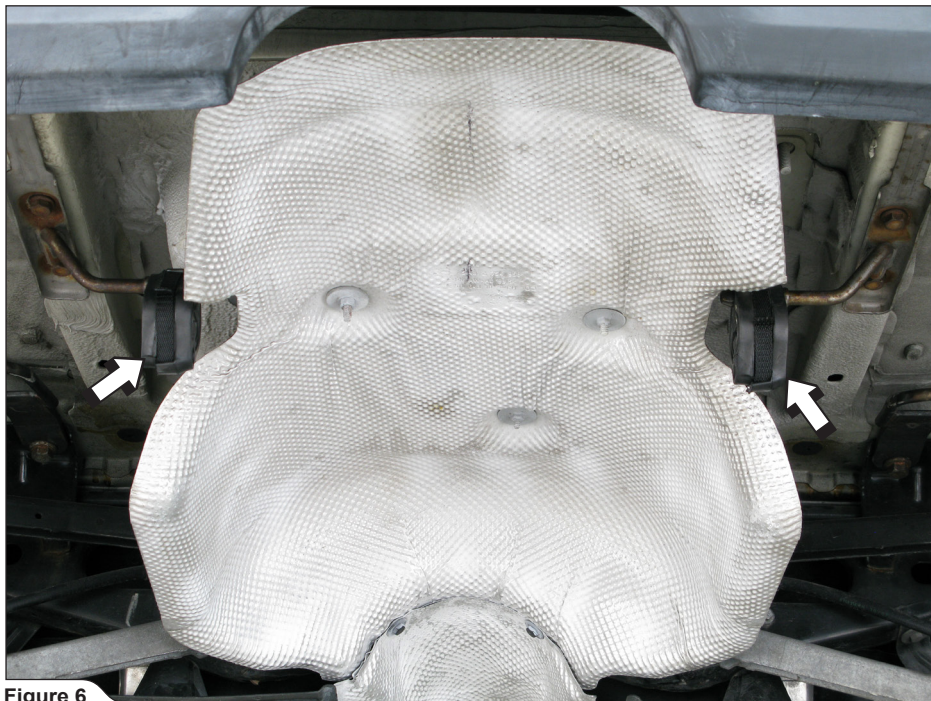

Figure 6
5. **For Evolution and Optional Down Pipe:** pull original exhaust brackets out of marked rubber brackets and remove the original exhaust system off the vehicle (**Figure 6, 7**).